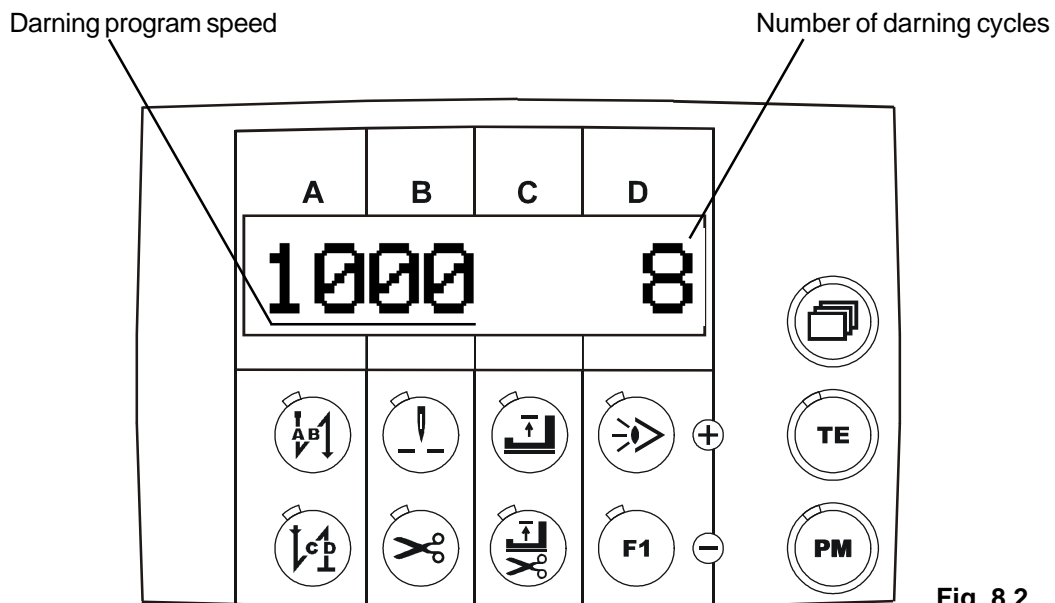

Fig. 8.2
- The activated **special darning program** is shown on the display if the paging key is pressed until the display (**Fig. 8.2**) appears.
- Press the **paging key** until **display Fig. 8.2** appears
If required, you can enter thread trimming after completion of the darning cycle (see Fig. 8.2).